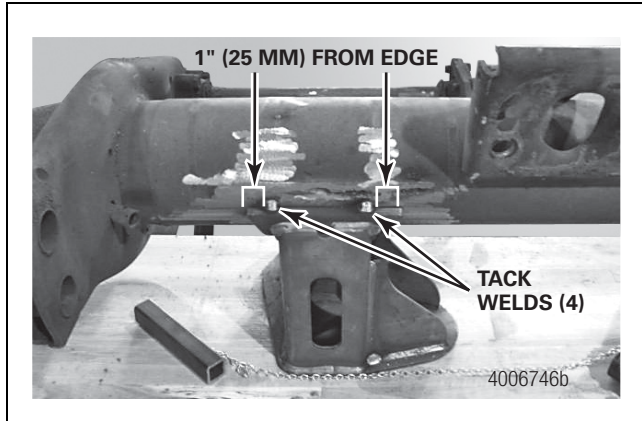

Figure 15
- Place four tack welds on the seat-to-axle connection one inch (25 mm) from any edge. Figure 15.